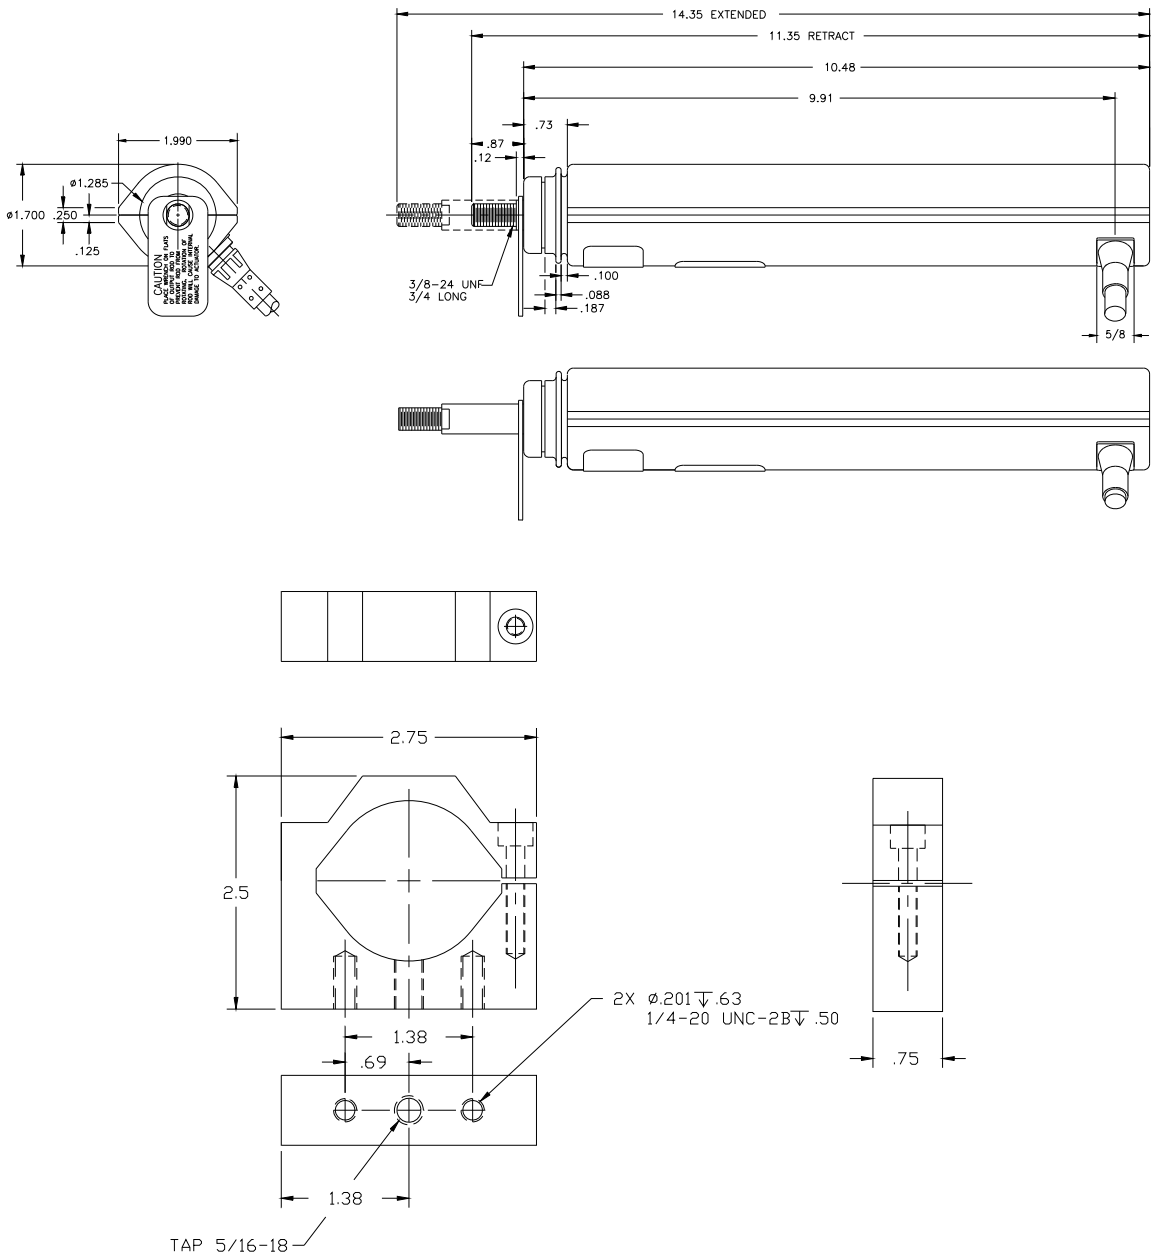

Figure 4-1. 722 Series Actuator with Mounting Clamp (dimension in inches)
- For your convenience, Actus offers mounting hardware for both actuators. See Chapter 6 "Troubleshooting" for information on how to contact Actus. Also see figures 4-1, 4-2 and 4-3 for dimensional information.